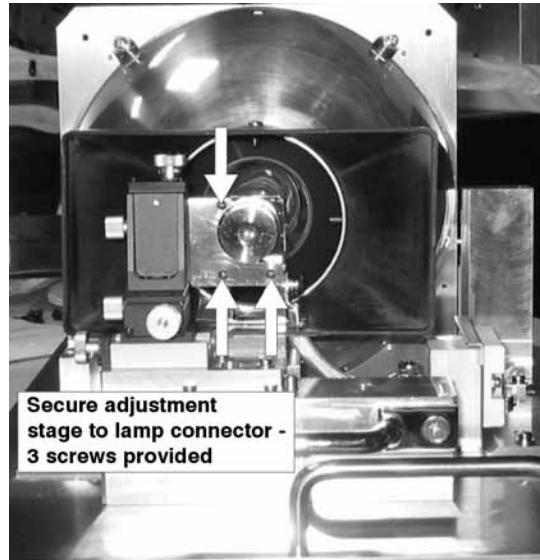

Figure 9 – Adjust XYZ Stage
- Adjust the XYZ stage until the three guidance holes at the back of the lamp connector are lined up (Figure 9 – Adjust XYZ Stage9) and then install the three screws provided.